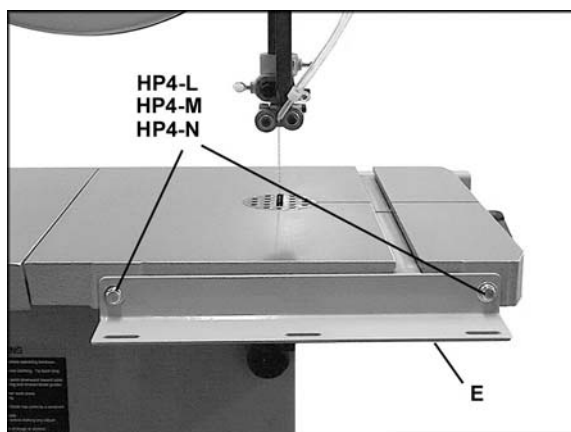

Figure 26
Refer to Figures 26 through 29.
- Install *front rail* (E, Figure 26) to the main table using two *M6x20 hex cap screws* (HP4-L), two *1/4" lock washers* (HP4-M) and two *1/4" flat washers* (HP4-N). Finger tighten only at this time.
- Tighten both screws on the front rail (HP4-L, Figure 26) with a 10mm wrench.
4. If the fence is not square to the table, slightly loosen the two screws in the front rail (see Figure 26) and raise or lower one end of the front rail assembly until fence is square to table.